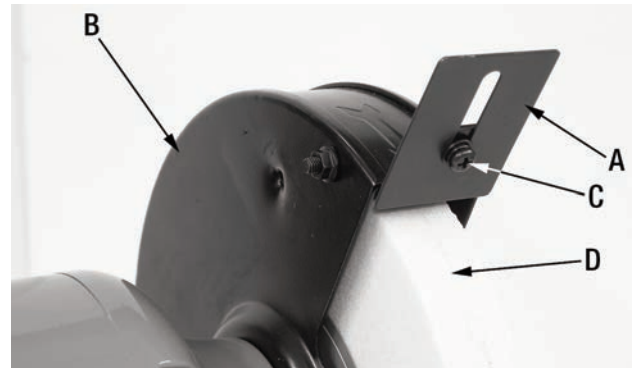

FIGURE 4
1. Install the spark guard (A) Fig.4 to the front surface of the wheel guard (B) using a pan head screw, spring washer and washer (C). Repeat for the other side.
2. Adjust both spark guards (A) Fig.4 until they are 1/16" away from the grinding wheel (D). Firmly tighten the pan head screws. As the grinding wheels are worn down, re-adjust the spark guards to maintain the 1/16" distance from the wheel.